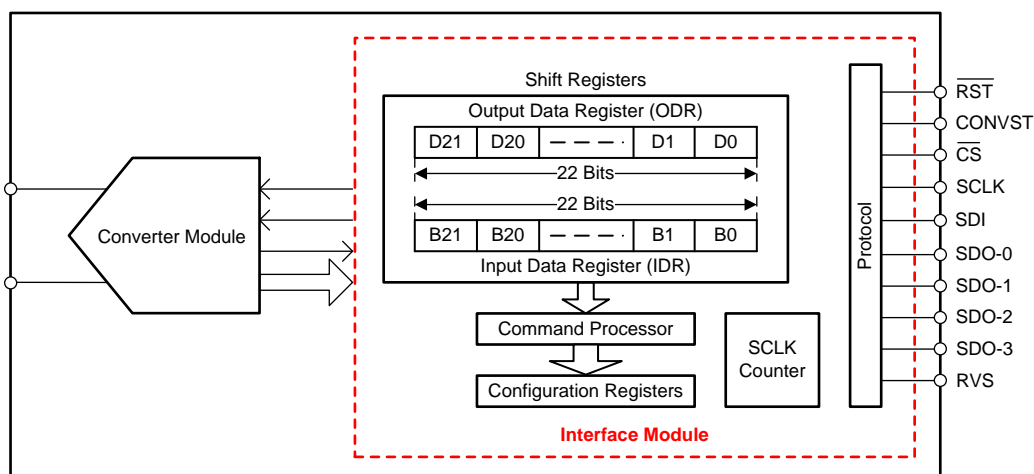
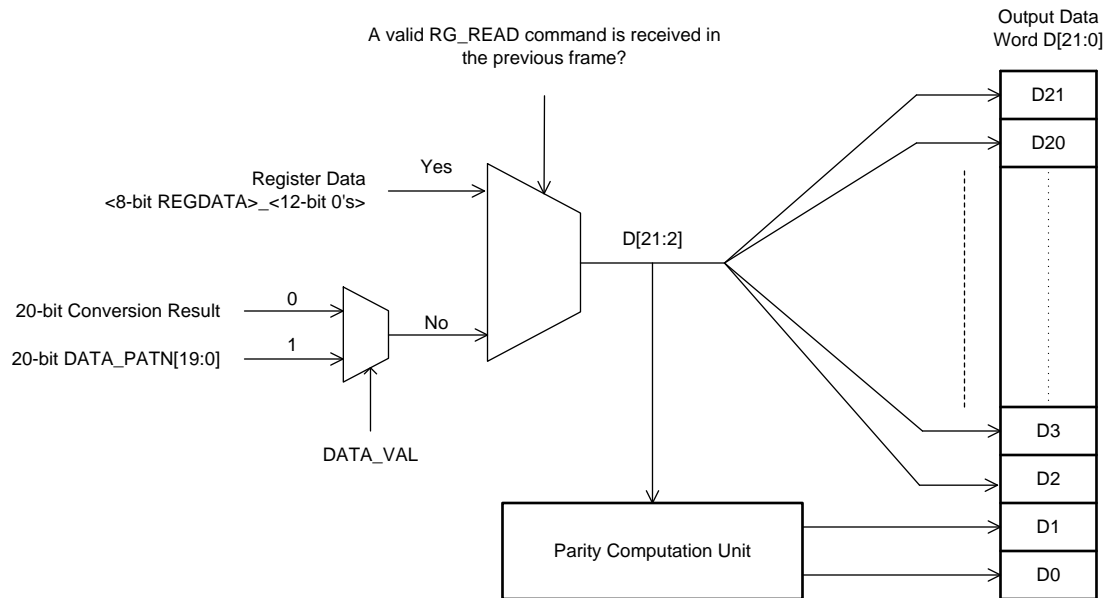
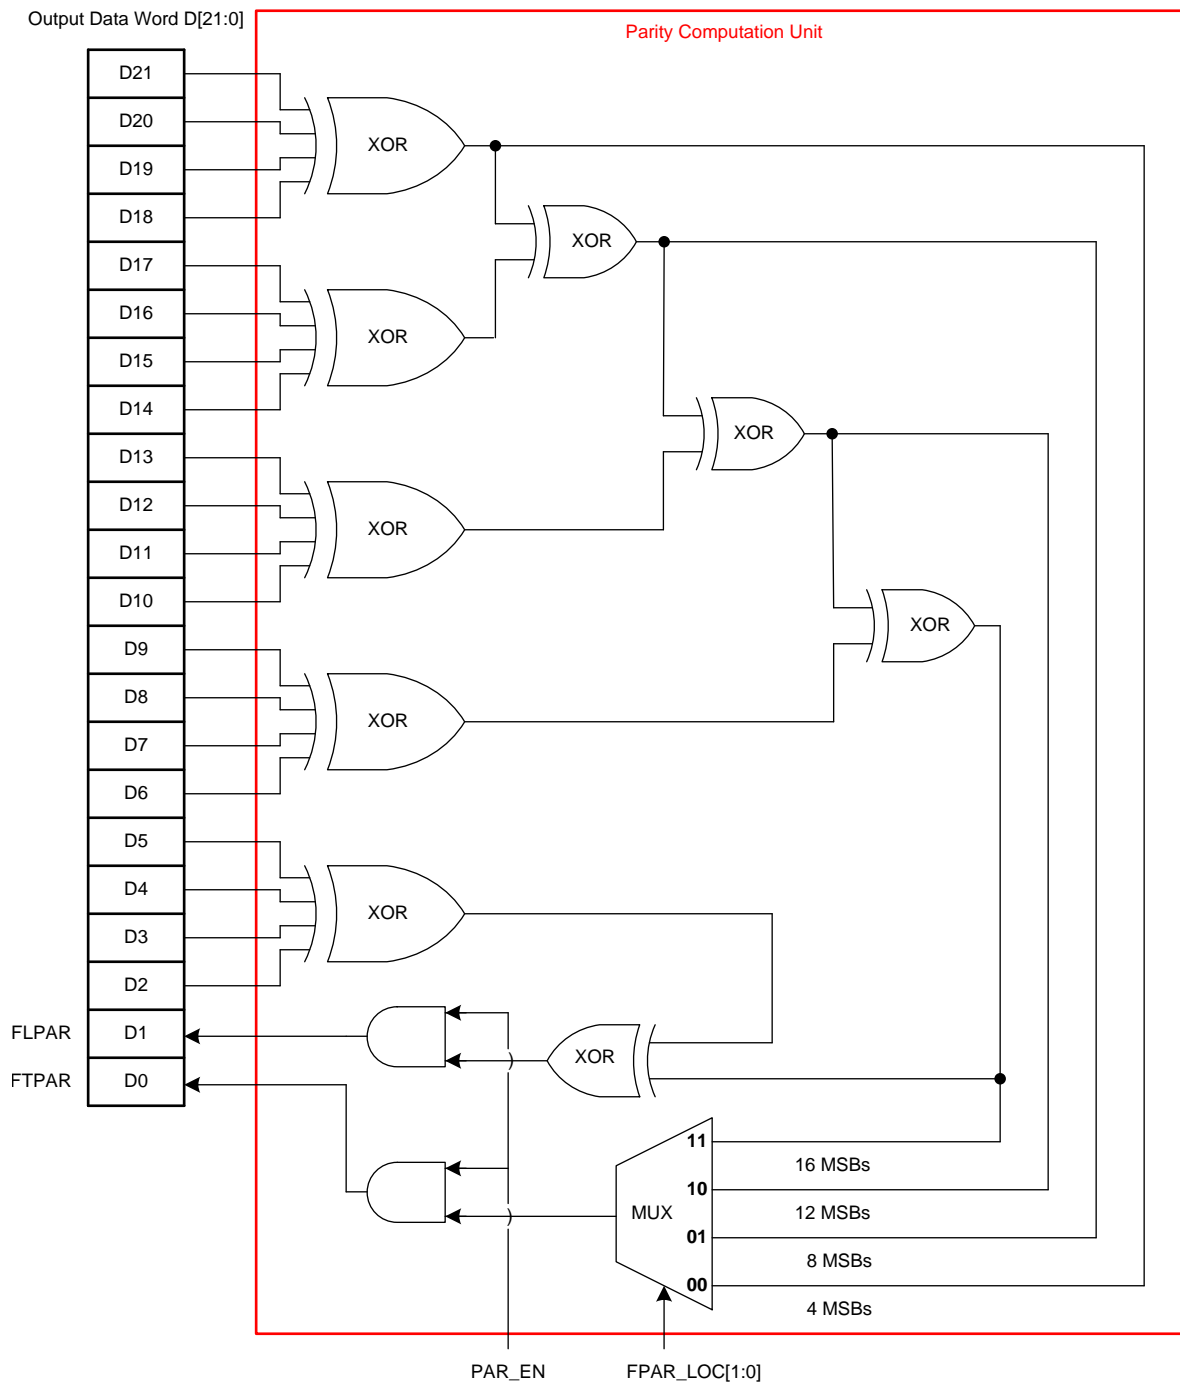
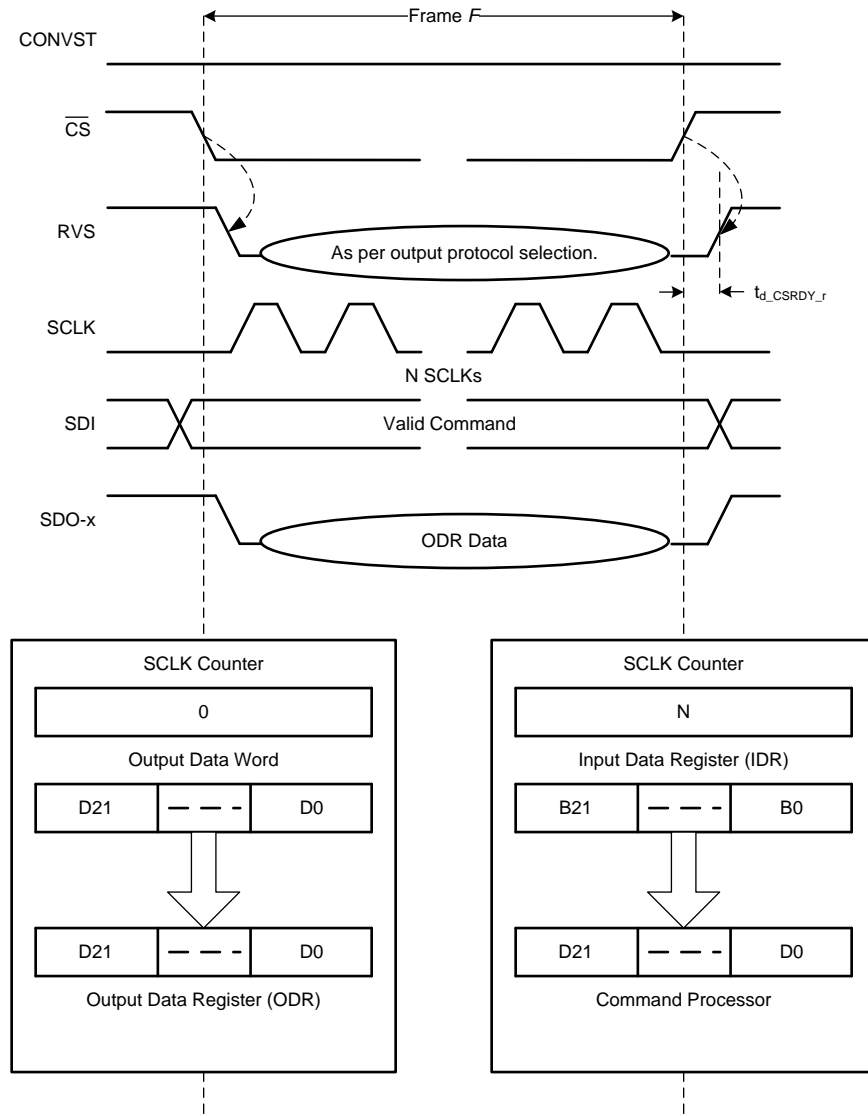

Figure 39. Interface Module
Figure 43. Output Data Word (D[21:0])
Figure 44. Parity Bits Computation
Figure 45. Data Transfer Frame
The interface module facilitates the communication and data transfer between the device and the host controller. As shown in Figure 39, the module consists of shift registers (both input and output), configuration registers, and a protocol unit.
Figure 43 shows the output data word. Figure 44 shows further details of the parity computation unit illustrated in Figure 43.
A data transfer frame between the device and the host controller is bounded between a $\overline{\text{CS}}$ falling edge and the subsequent $\overline{\text{CS}}$ rising edge. The host controller can initiate a data transfer frame (as shown in Figure 45) at any time irrespective of the status of the CONVST signal; however, the data read during such a data transfer frame is a function of relative timing between the CONVST and $\overline{\text{CS}}$ signals.
- The device takes control of the data bus. As shown in Figure 45, the 22-bit contents of the output data word (see Figure 43) are loaded in to the 22-bit output data register (ODR; see Figure 39).
- The 22-bit input data register (IDR; see Figure 39) is reset to 000000h, corresponding to a NOP command.
- As illustrated in Figure 45, the 22-bit contents of the IDR are transferred to the command processor (see Figure 39) for decoding and further action.
In a short command frame, the write operation to the device is invalidated; however, the output data bits transferred during the short command frame are still valid output data. Therefore, the host controller can use such shorter data transfer frames to read only the required number of MSB bits from the 22-bit output data word. As shown in Figure 43, an *optimal read frame* for the ADS890xB devices must read only the 20 MSB bits of the output data word. The length of an optimal read frame depends on the output protocol selection; see the Protocols for Reading From the Device section for more details.